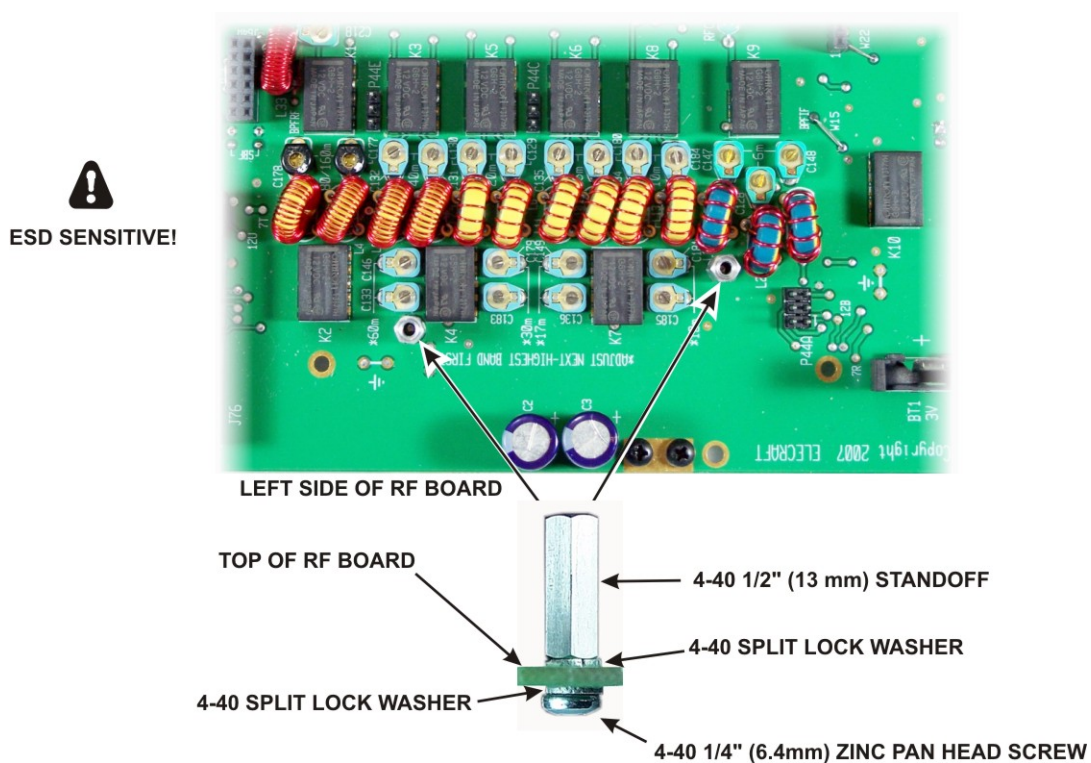

Figure 8. Installing KBPF3 Standoffs.
□ Install the two KBPF3 standoffs shown in Figure 8. Even if you didn't purchase the KBPF3 general coverage option, the standoffs and hardware are included in the K3 kit to make installing the option easier at some future date. Note that these standoffs have only *one* lock washer between each standoff and the RF board